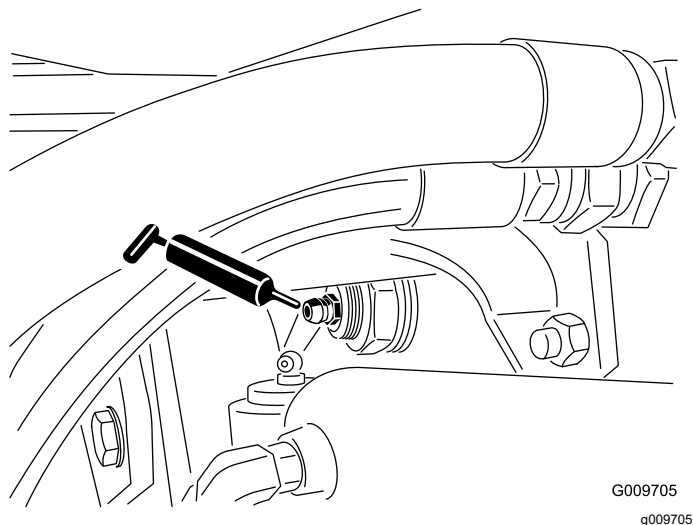

Figure 65
- Rear axle pivot bushings (2) (Figure 65)